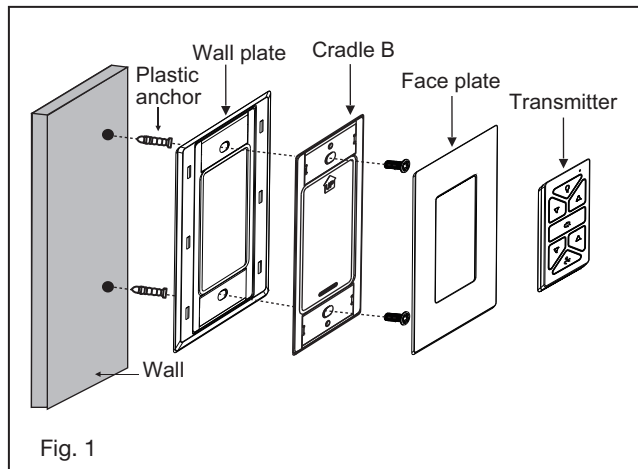

Fig. 1
- 1 Remove ball from downrod by loosening set screw in the side of the ball. Slide ball down and remove ball pin; remove ball. (Fig. 1)
1. Insert the receiver into the ceiling mounting bracket with the flat side of the receiver facing the ceiling. (Fig. 1) For best performance, make sure the Black Antenna and WIFI Antenna, on the end of the receiver, remains extended and not tangled with any of the electrical wires.
Re-install the bottom motor housing. (Fig. 1)
- 2 While holding the LED assembly under your fan, make the polarized plug connections: (Fig. 1)
- 3 Tuck connections neatly into adapter plate. Place the key holes on the LED assembly over the 2 screws previously loosened, turn the LED assembly until it locks in place at the narrow section of the key holes. Secure by tightening the 2 screws previously loosened and the one previously removed. (Fig. 1)
- 1 Select a desired location. Use the wall plate to mark the location of the mounting holes. Plastic wall anchors or mounting screws are needed for this application. (Fig. 1)
Remove the panel from the transmitter and then install one 2032 battery (included). You need to use a screwdriver to open or close the battery cover. To prevent damage to transmitter, remove the battery if not use for long periods of time (Fig. 1)